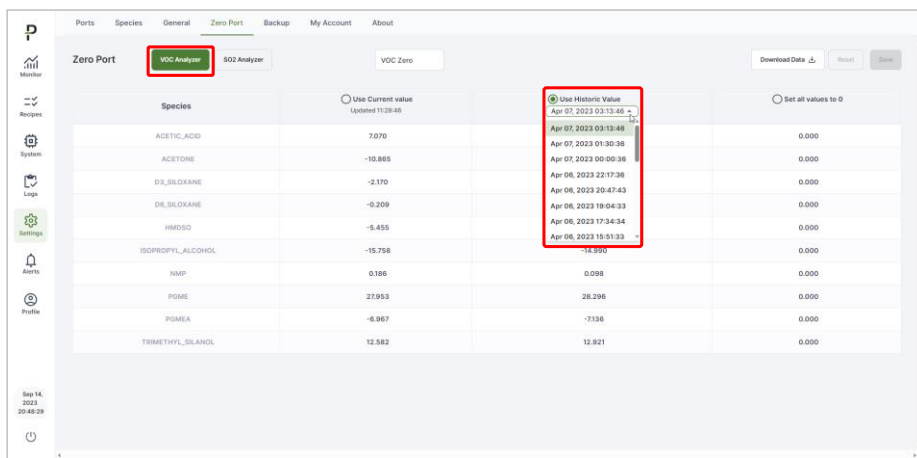

Figure 66: Zero Port Tab – Use Historic Value Menu
5. **Current Value:** Shows the current values which, if no changes are made (such as selecting Use Historic Value, or Set all Values to 0), zeroing will be applied to the selected Zero Port from this data (Figure 66).
- Clicking on **Use historic value** copies the historical zero offset values selected from the date/time drop-down list (Figure 66) to the selected Zero Port. Click the dropdown menu, select a date, then click **Save**.